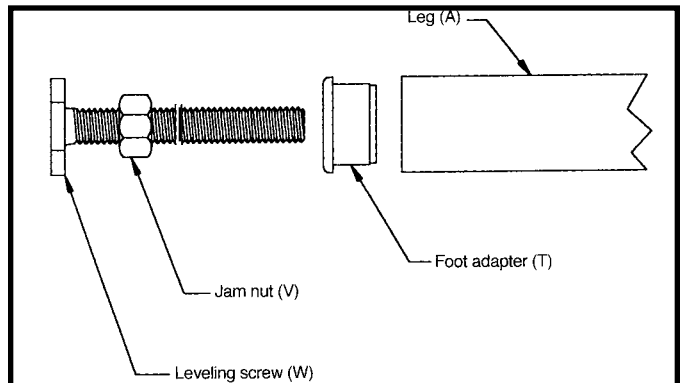

Fig. 6
4. Insert foot adapter (T) Fig. 6, into the bottom of each leg (A). Assemble the 3/8" jam nut (V) approximately 3/4 of the way onto leveling screw (W). Thread the leveling screw (W) into foot adapter. Fig. 7 illustrates the foot leveling assembly on the table leg. Assemble the remaining foot assembly to the other table leg in the same manner. **NOTE:** Height adjustments can be made later.